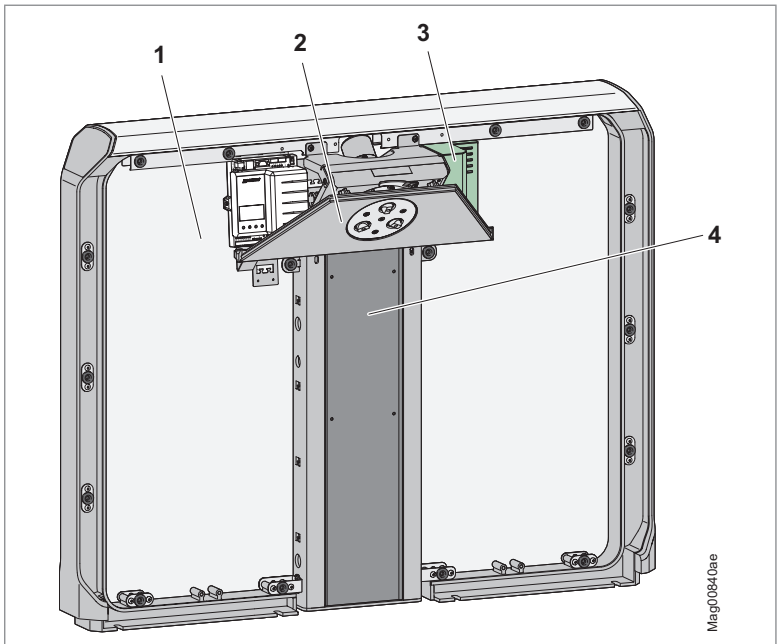

Fig. 7: Turnstile in delivery state
- › The mTripod is in delivery state. ↗ Page 35, Fig. 7.
› The mTripod is in delivery state. ↗ Page 35, Fig. 7.